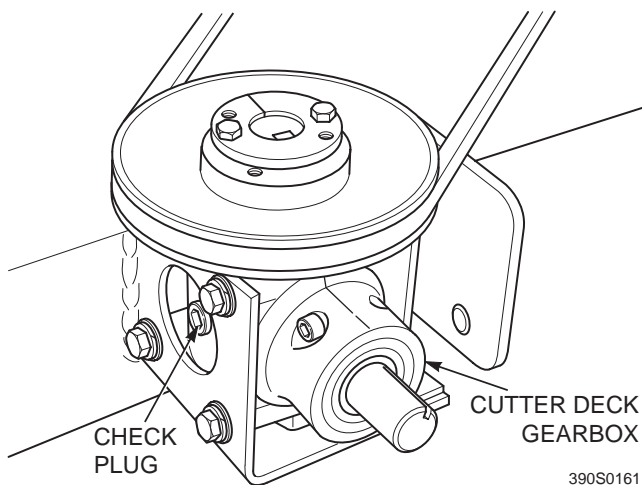

Figure 7-8. Cutter Deck Gearbox
The fluid level in the cutter deck gearbox (Figure 7-8) should be checked after every 100 hours of operation or bi-weekly, whichever occurs first.
2. Clean and remove the check plug from the side of the gearbox (See Figure 7-8). Visually check that the lubricant level is up to the bottom edge of the check plug hole. If lubricant is low, add SAE 80/90 lubricant through the check plug hole in the gearbox until it is level with the bottom of the check plug hole. Install the check plug and tighten securely.